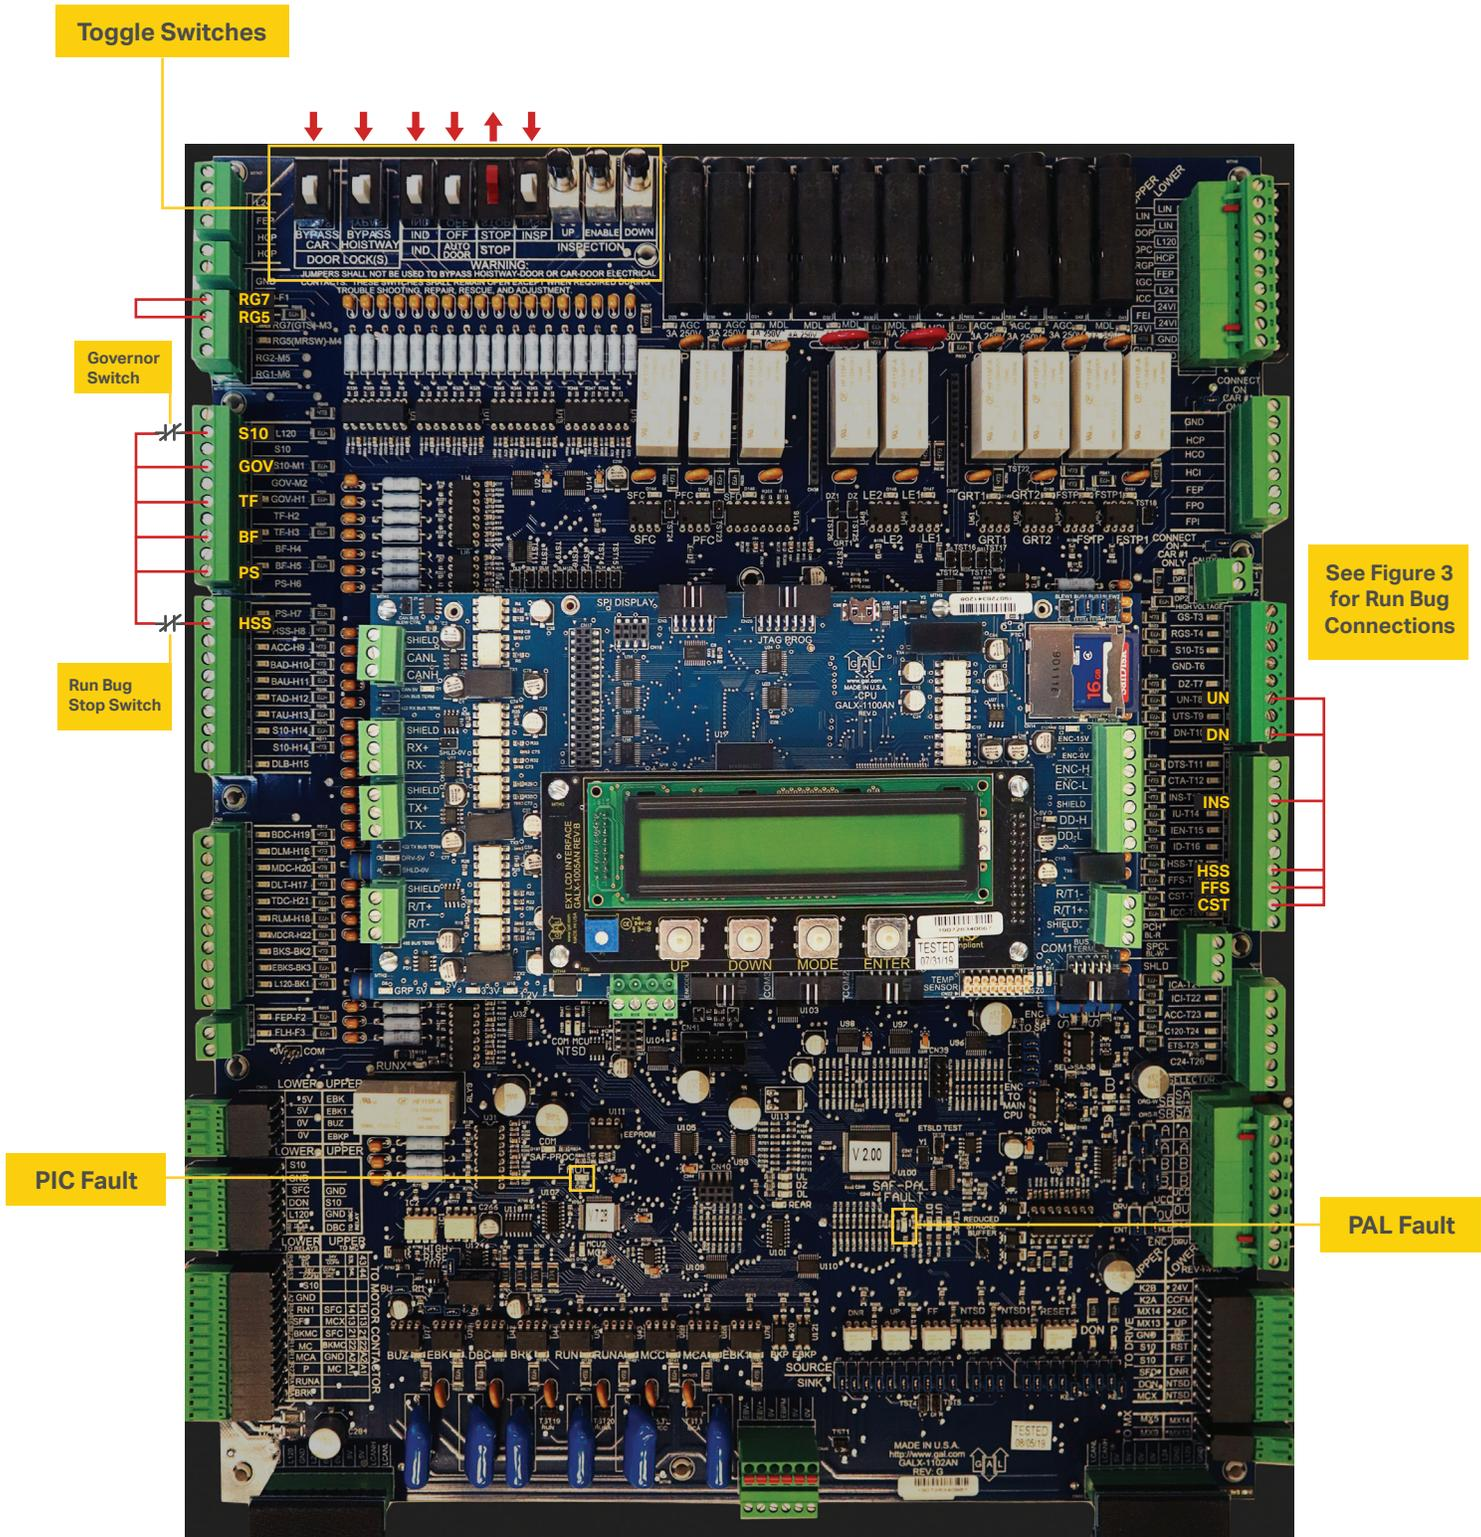

Figure 4: GALX-1102AN Main I/O Board
- 4 Set the toggles switches on the GALX-1102 Main I/O Board as shown in **Figure 4**.
- 7 Verify the PIC and PAL fault LED's are off. See the GALX-1102AN Main I/O Board in **Figure 4**. If these LED's are on, refer to the GALaxy IV adjustment manual for possible causes of these faults.
with Run Bug. See Figure 4